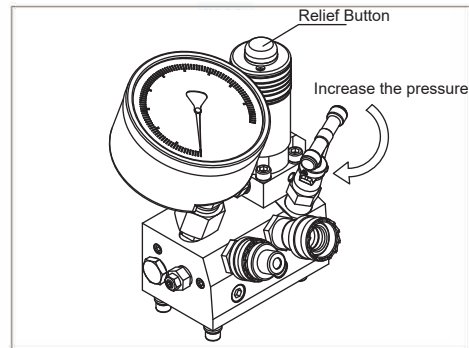

Figure 2
- a. Do so by turning the adjusting knob in a counterclockwise direction. (Figure 2)